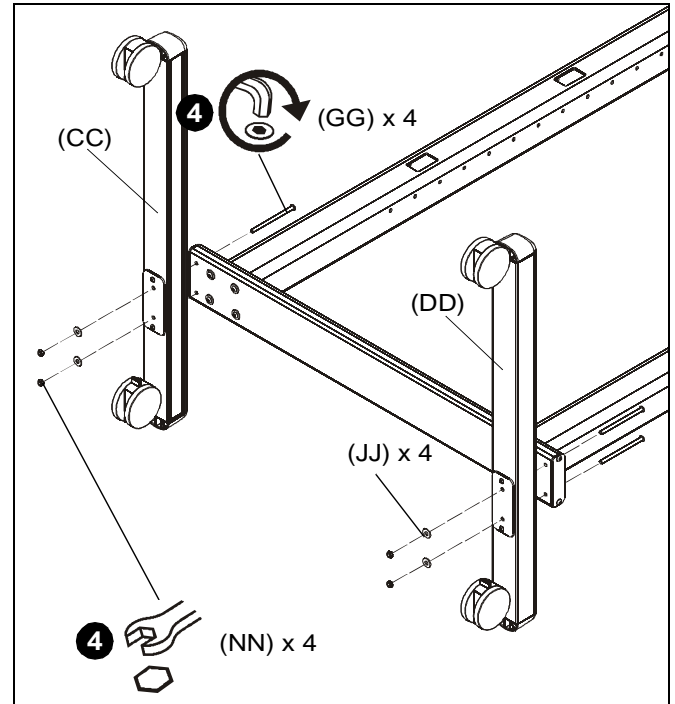

Figure 2
4. Use four 5/16-18 x 5" button head cap screws (GG), four 5/16" washers (JJ) and four 5/16-18" lock nuts (NN) to secure right and left legs (CC and DD) to cross bar (J). (See Figure 2)
**NOTE:** To ensure right and left legs (CC and DD) are assembled on the appropriate side, make sure the smooth side of the legs are to the outside when assembling to cross bar (J).